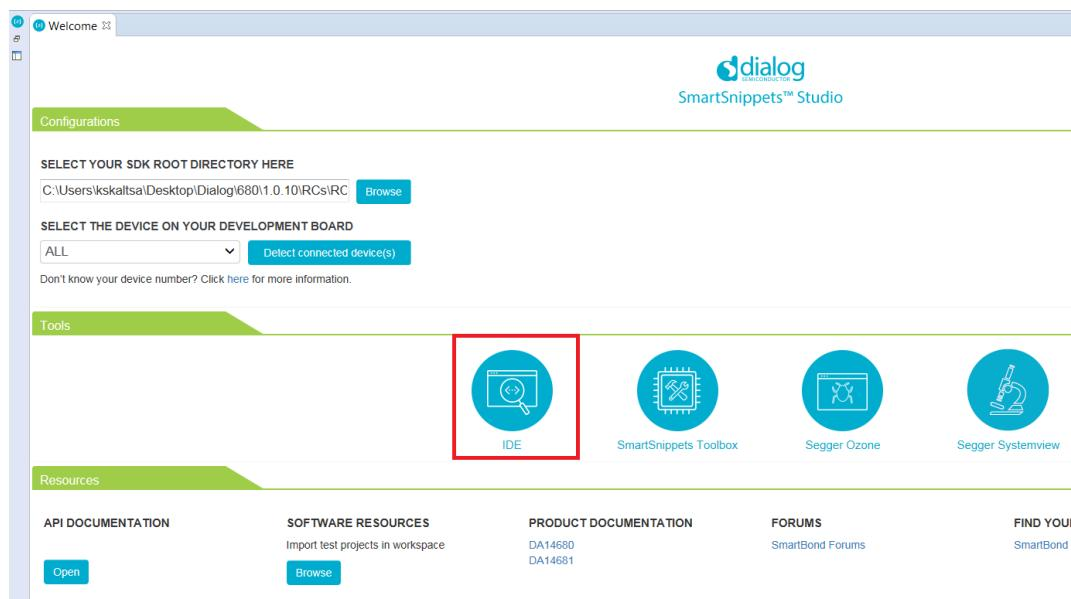

Figure 34: SmartSnippets™ Studio welcome page
1. In the SmartSnippetsTM Studio welcome page click on the IDE icon from the Tools tab as shown in Figure 34.